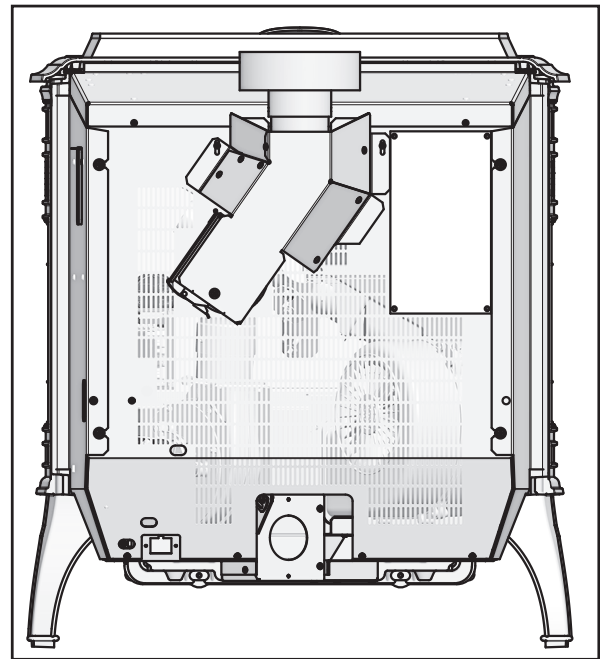

Figure 22.2
3. Align slot on left of adapter with hole in the back of the appliance and secure with screw. You may drill out the hole using #26 drill bit provided but only if needed (Figure 22.2).
7. To clean top vent adapter, open clean-out cover and remove any debris build-up (Figure 22.2).